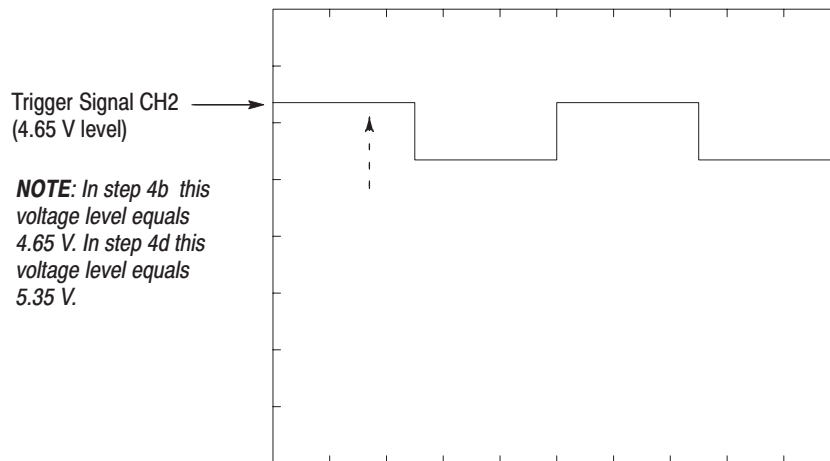

Figure 4–25: Trigger Signal (+5V check1)
- c. Verify that no waveform is displayed on the oscilloscope (see Figure 4–25).
- e. Verify that a sine wave is displayed on the oscilloscope (see Figure 4–26).